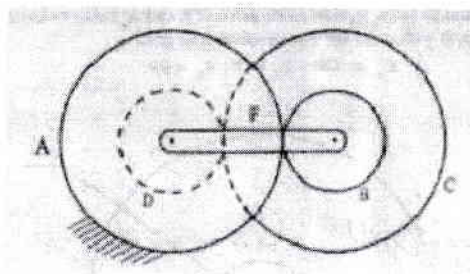

Fig. 4.5
5. An Epicyclic gear train is constructed as shown in fig 4.5. A fixed annular wheel A & a smaller concentric wheel B are connected by a compound wheel  $A_1-B_1$ .  $A_1$  gearing with A.  $B_1$  gearing with B. The compound wheel revolves on a stud which is carried around an arm which revolves about the axis A & B. A has 130 teeth,  $B_1=80$  teeth, pitch of A &  $A_1$  being twice that of pitch of B &  $B_1$ . How many revolutions B will make for one revolution of the arm. (solve it by algebraic method)